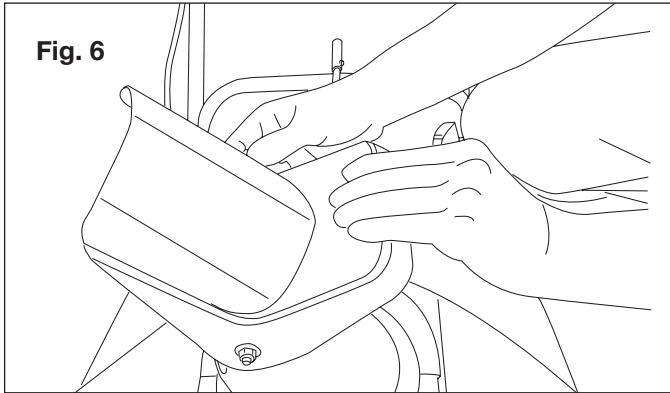

Fig. 6
2. Lift the chute deflector and lock it securely onto the discharge chute (Fig. 6).